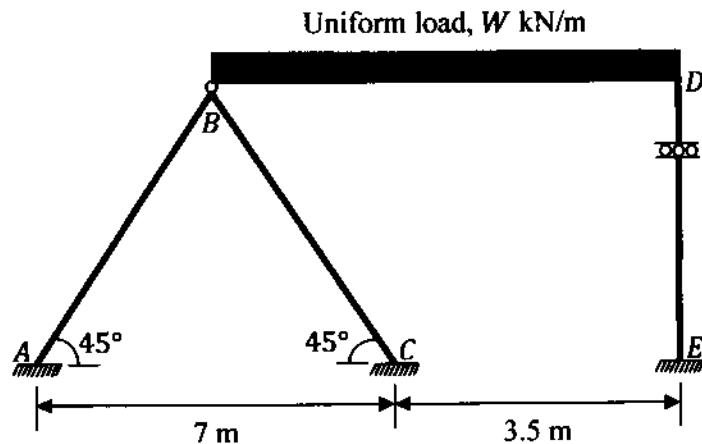

FIGURE Q6
- (d) A rigid jointed steel frame ABC carry a transfer load from unstable beam BD as shown in **Figure Q6**. The beam is supported by roller at the both ends that produce elastic instability to the frame. The Young's modulus of steel is 210GPa